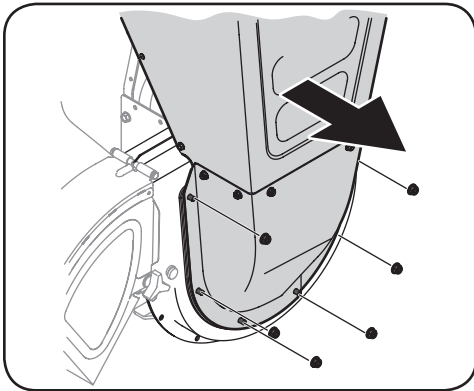

Figure 5-15
- Remove six flange nuts which secure hopper inlet guide to impeller housing. See Figure 5-15.